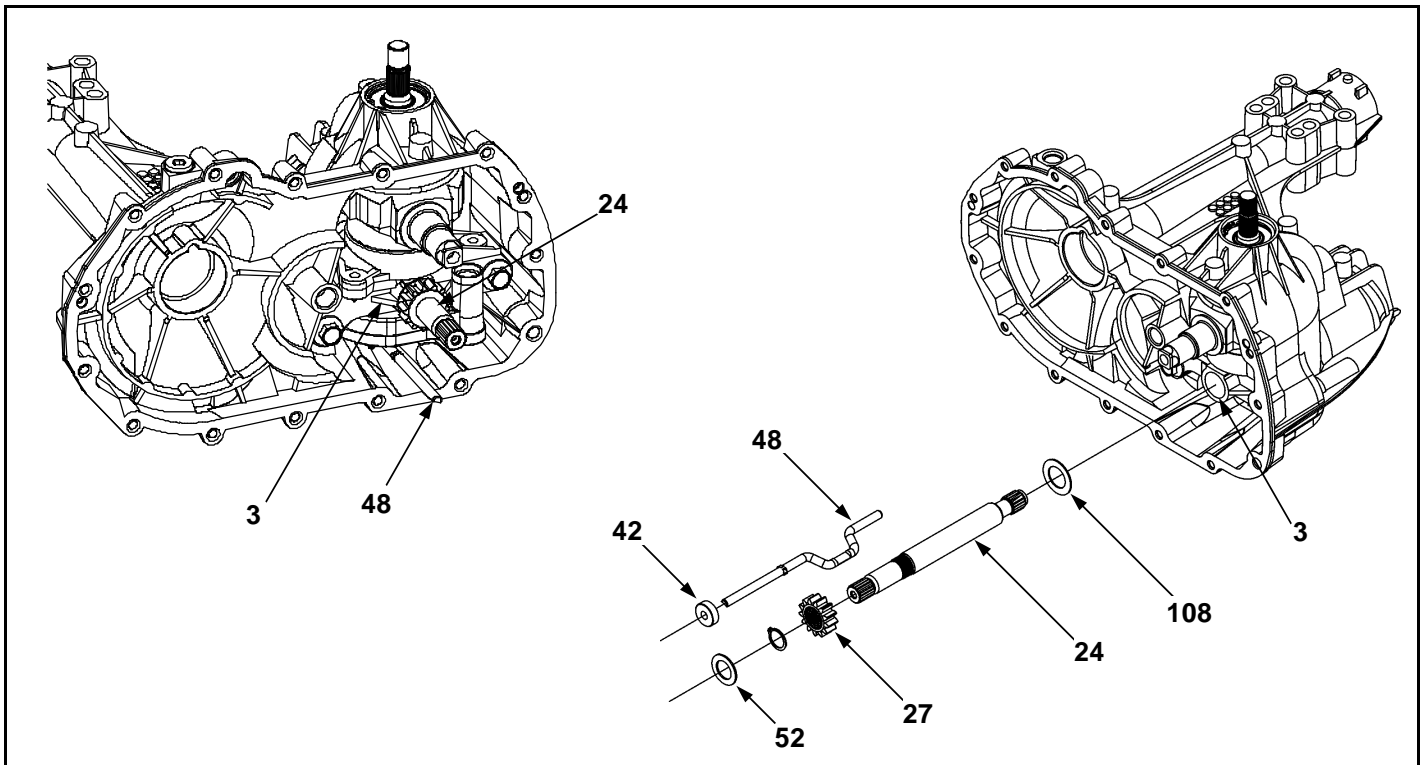
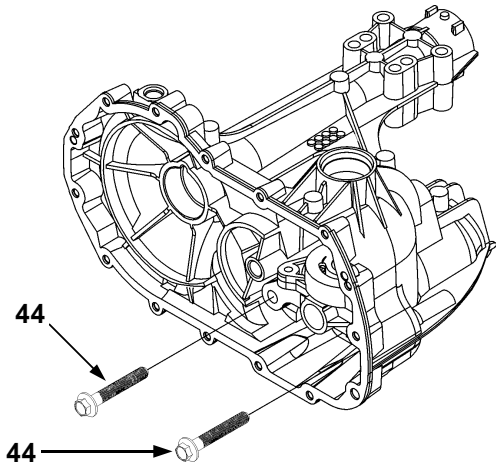
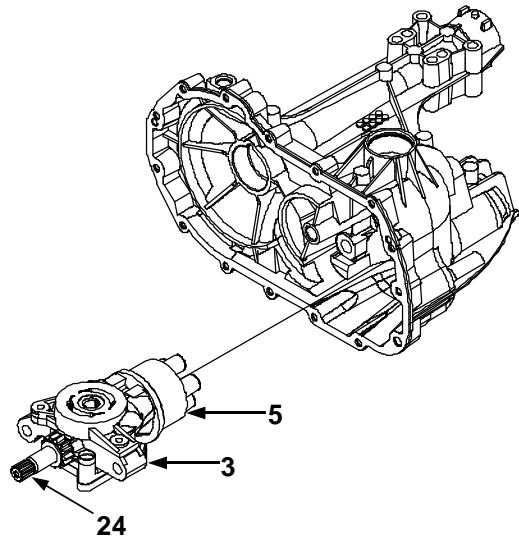
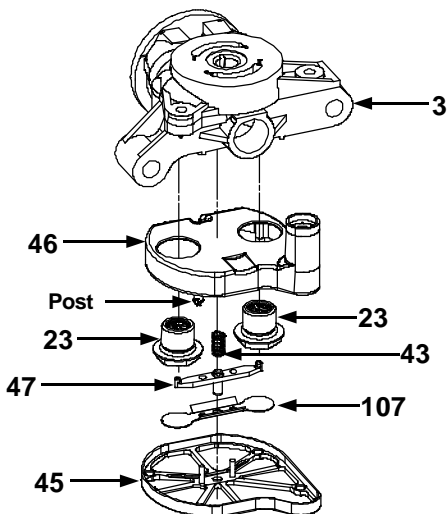

Figure 13. Motor Shaft & Bypass Rod Assemblies
Figure 19
Figure 23
Figure 21
Refer to Figure 13.
14. **(See Fig. 19)** Remove the center section mounting screws (44). NOTE: The center section is under motor block piston spring pressure. These screws are factory installed to 700 in. lbs. (80 Nm) and use an anaerobic thread adhesive. A breaker bar will be required at this step. Clean the internal threads of the mounting holes with compressed air.
16. **(See Fig. 21)** Remove the filter (45) from the filter base (46) by snipping the four posts with side cutters or applicable tool. NOTE: This filter cannot be reused.
17. Remove and inspect the deflector (107), bypass actuator (47) and bypass spring (43).
18. Note the location of both check plugs (23) before removal for correct placement during reassembly. Remove and inspect the check plug assemblies (23) for debris or damage.
19. Remove the filter base (46) and discard it. NOTE: The filter base is included in the filter kit to be installed during reassembly of the unit.
3. **(See Fig. 21)** Install the new filter base (46) onto the center section (3).
4. Install the check plugs (23), in their correct location, into the center section (3). Tighten the check plugs according to Table 5.
5. Install the bypass spring (43) into the filter base (46).
6. Install the deflector (107) into the underside of the filter (45).
7. Install the bypass actuator (47) into the underside of the deflector (107).
8. Hold the stem of the bypass actuator (47) from the top of the filter (45) to retain the deflector (107) and bypass actuator (47) in place when snapping the filter (45) onto the filter base (46). NOTE: Filter installation is best accomplished by using the spacer (65, Page 32) as an assembly tool over each of the (4) snaps while lightly tapping with a rubber mallet. Excessive force will result in damage to the plastic filter components.
9. **(See Figures 13 & 23)** Install the motor shaft (24), pinion gear (27) and flat washers (52 & 108) into the center section (3).
10. Assemble the motor block assembly (5) onto the motor shaft (24).
11. **(See Fig. 23)** Install the motor shaft, center section and motor block assembly so that the block pistons contact the thrust bearing race. NOTE: Hold in place and insure all pistons are still positioned correctly in the cylinder bore by confirming spring bias against the center section.
12. **(See Fig. 19)** After applying thread adhesive, insert the center section mounting screws (44) while holding downward pressure on the center section assembly (3, Fig. 23).